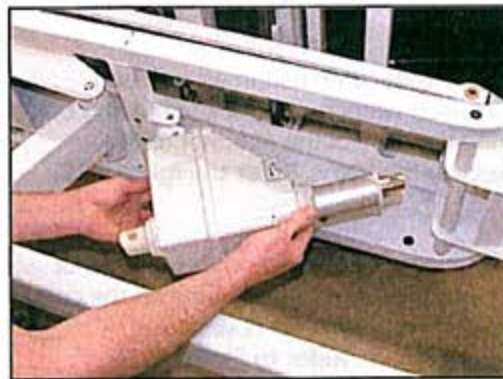

FIGURE 5.28
10. Remove the Actuator. **Refer to Figure 5.28.**